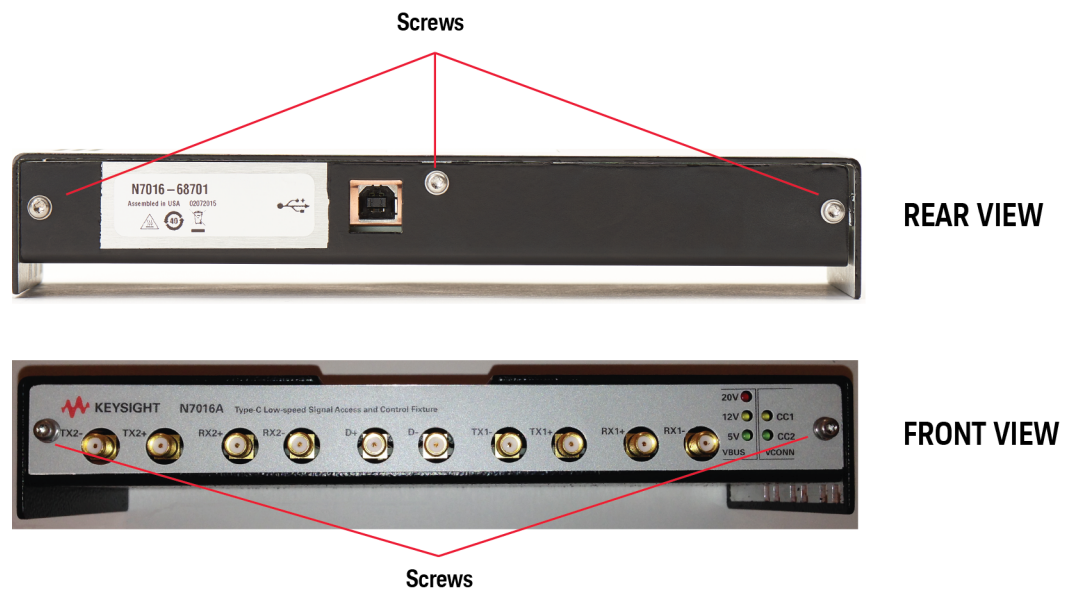

Figure 6 Cover Screws
- 5 After replacing the fuse, carefully fit the cover back on the N7016A and tighten the three screws on the back side and the two screws on the front side of the N7016A cover (See Figure 6 on page 47).